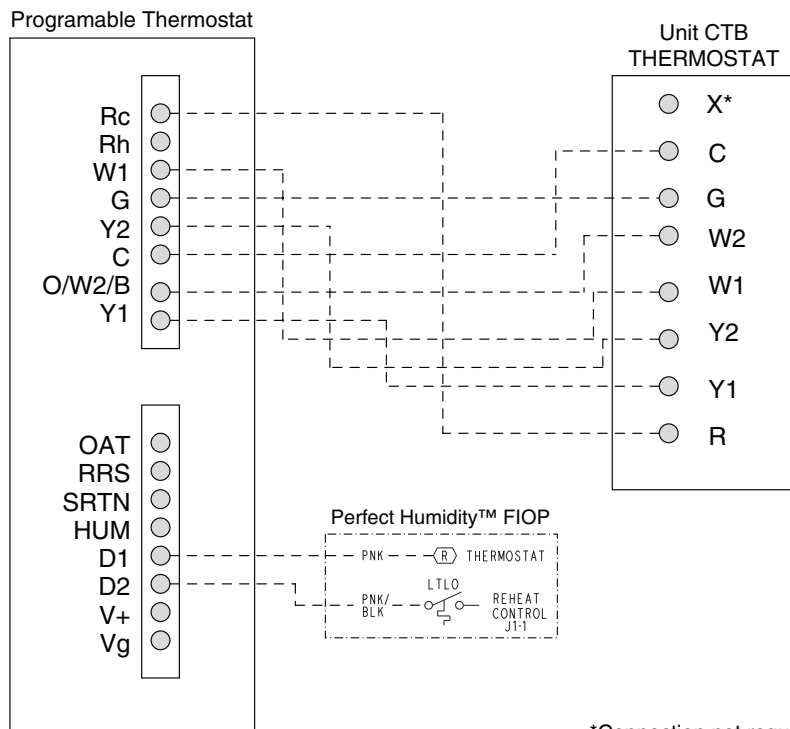

Fig. 35 — Typical Rooftop Unit with Hot Gas Re-Heat Dehumidification System with Field-Installed Programmable Thermostat
3. The Programmable Thermostat has dry contacts at terminals D1 and D2 for dehumidification operation (see Fig. 35). The dry contacts must be wired between CTB terminal R and the PINK lead to the LTLO switch with field-supplied wire nuts. Refer to the installation instructions included with the Programmable Thermostat device for more information.